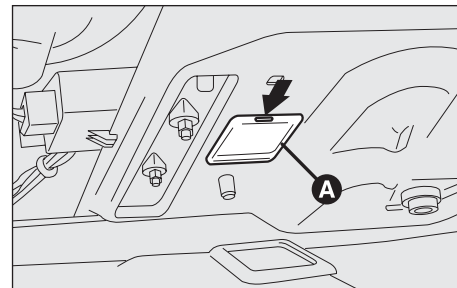

fig. 64
- Withdraw the clear plastic cover and bulb (**A-fig. 64**) using a flat-bladed screw-driver.